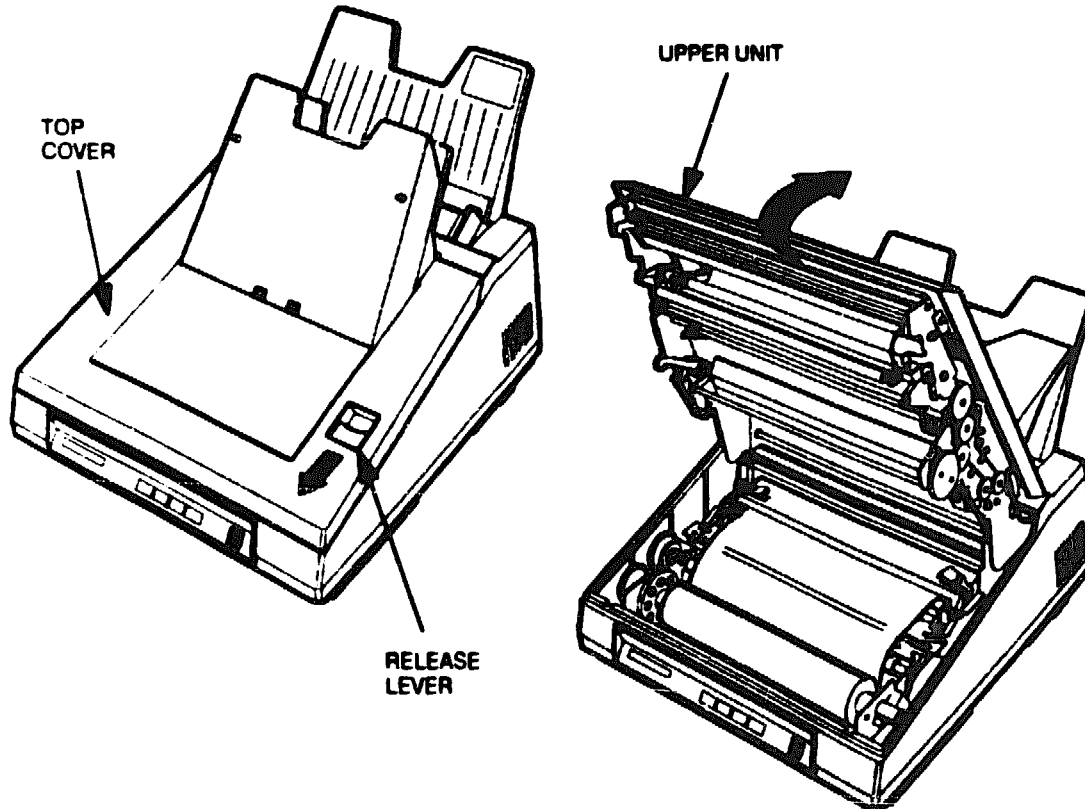

Figure 2-4 Opening the Upper Unit
2. Slide the release lever forward (toward the control panel) on the top cover and open the upper unit (see Figure 2-4). Lift the top cover up until the upper unit locks into position.